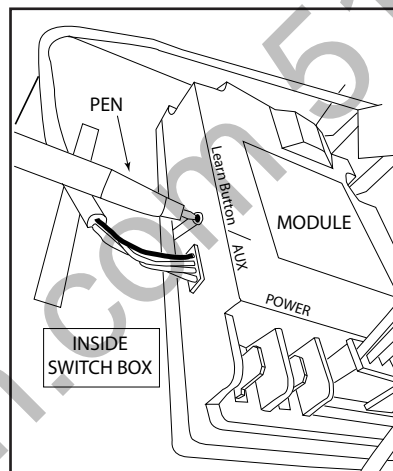

Fig. 18 Learn button on module
4. To program the module; ensure the batteries have been installed in the battery pack and battery pack is removed from Switch Box. Locate the learn button on the module (See Fig. 18). Press and release the learn button with a pen. There will be a beep sound from the module. Then press any key on the remote transmitter. Once the modules internal receiver accepts the transmitter code, there will be a series of rapid beeps. Then remote system is ready for use.
2. Clear Codes: Memory in the module might be full if the learn button is pressed too many times. If this happens no audible beep will be heard. To clear memory, place the module slide switch into the REMOTE position. Press the learn button and release after 10 seconds. You should hear three (3) long audible beeps indicating all codes have cleared. You can now "relearn" the transmitter to the module as described below.
3. Press the LEARN button on the module to accept the transmitter security code. Ensure the slide button on the module is in the REMOTE position; the module will not LEARN if the slide switch is in the OFF position. The LEARN button is located on the side of the module (See Fig. 18). Using the pen or toothpick gently press and release the black LEARN button inside the hole. When you release the LEARN button the module will emit an audible "beep". After the module emits a beep press the transmitter ON button and release. The module will emit several beeps indicating that the transmitter's code has been accepted into the module then you can presume normal operation.